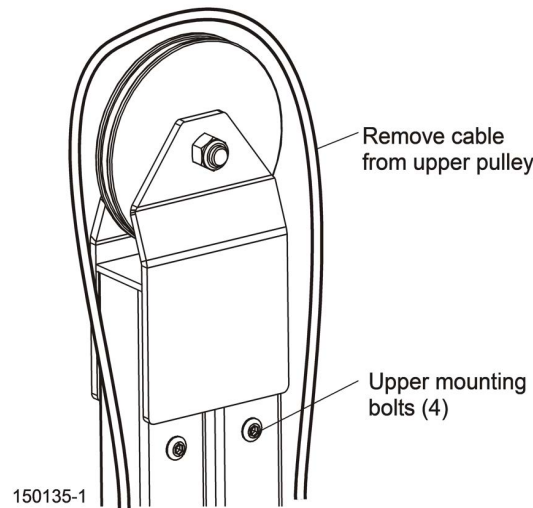

FIG. 6-6
- Loosen (but do not remove) the tension adjustment bolt. Remove the cable from the top pulley and remove the four mounting bolts at the top of the assist assembly. See FIG. 6-6.